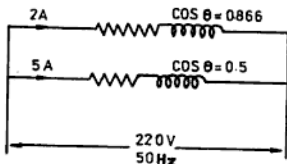

Fig. NE 11.33
- 11.33 Two coils as shown in the circuit (Fig. NE 11.33) are connected in parallel and take currents 2 A and 5 A at power factors 0.866 and 0.5 respectively. If the whole combination is connected across a 220 V , 50 Hz supply, calculate: